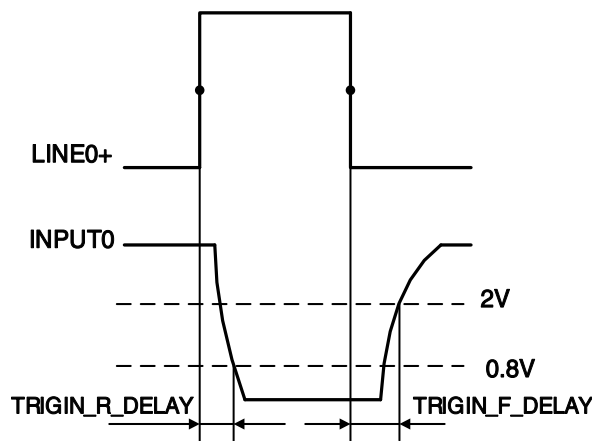

Figure 7-11 Parameter of opto-isolated input circuit
- Rising edge delay: $<50\mu\text{s}$ ($0^\circ\text{C}\sim 45^\circ\text{C}$), parameter description as shown in Figure 7-11
- Falling edge delay: $<50\mu\text{s}$ ($0^\circ\text{C}\sim 45^\circ\text{C}$), parameter description as shown in Figure 7-11